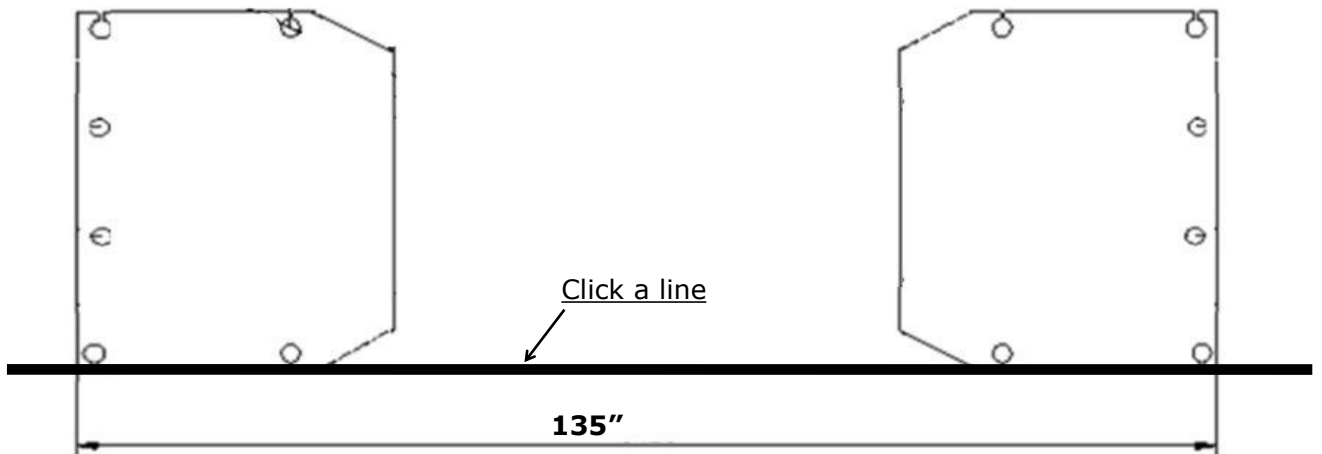

Fig.10
B. Use a carpenter’s ink marker line to establish installation layout of base-plate (See Fig.10).